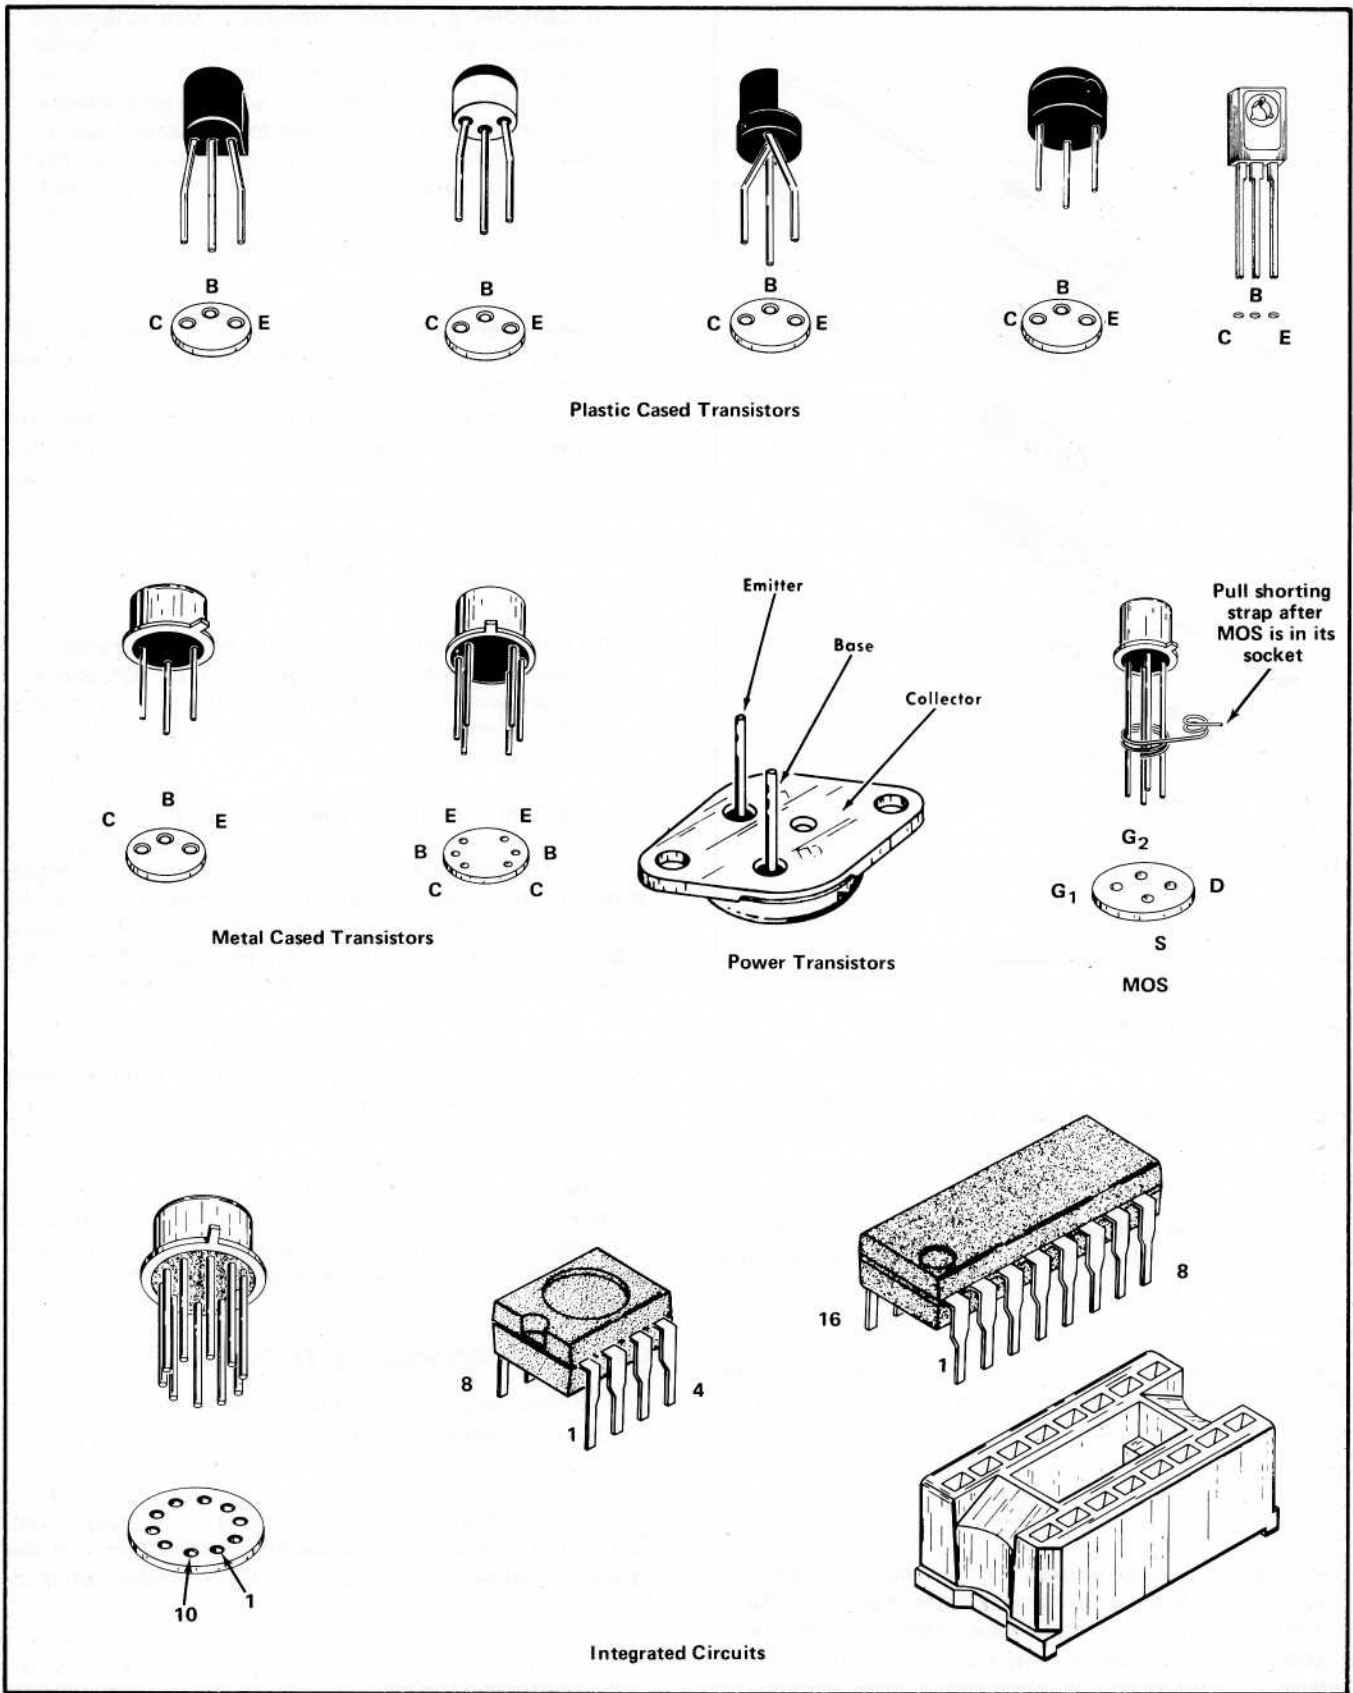

Fig. 6-3. Electrode configuration for socket mounted transistors, MOS's and IC's.
**Transistor and Integrated Circuit Electrode Configuration.** Lead identification for the transistors and MOS FETs is shown in Fig. 6-3. IC pin out diagrams are shown on the back of the adjoining pullout schematic diagram.
d. Be sure the component (transistor or IC) is inserted properly in the socket (see Fig. 6-3 or the manufacturer's data sheet).